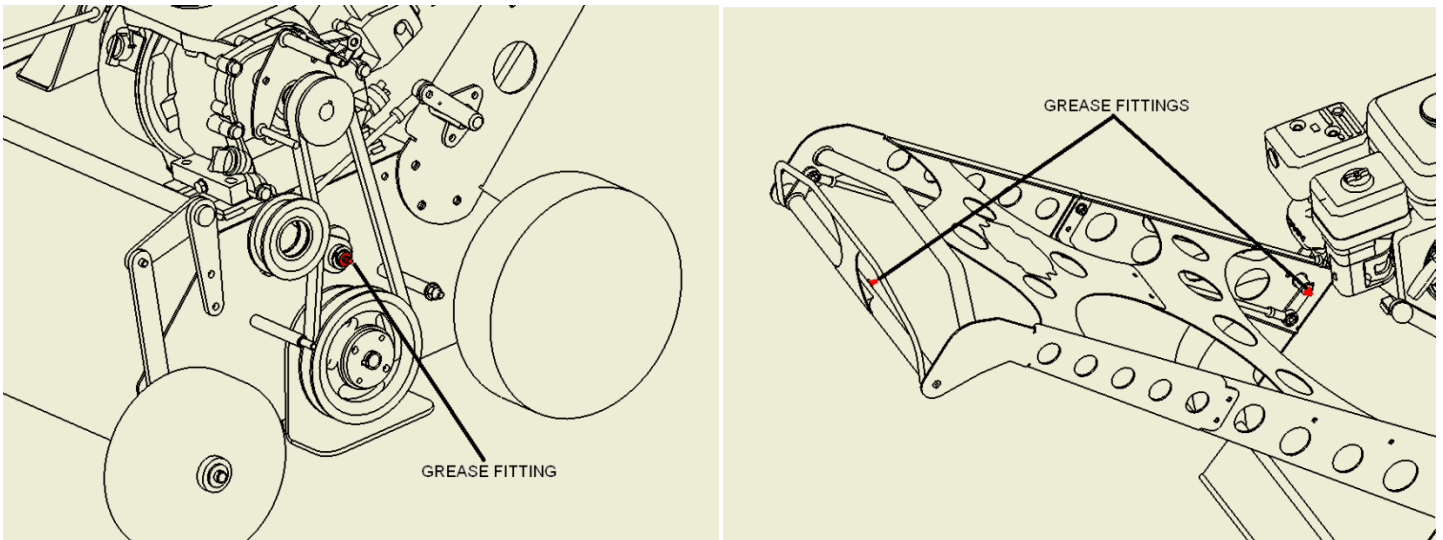

Figure 4
5. **Grease fittings should be lubricated once a month. ( See figure 4 to locate all three grease fittings)**